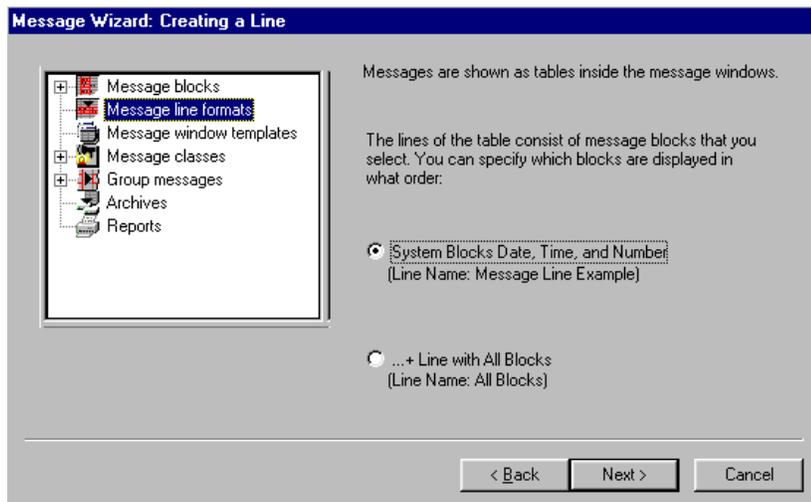

Figure 4.3b WinCC Project "QckStart"; The Message Wizard
3. In the "Message Wizard: Creating a Line" screen , the "System Blocks Date, Time and Number" are already preset. Click "Next". View Figure 4.3b for reference.